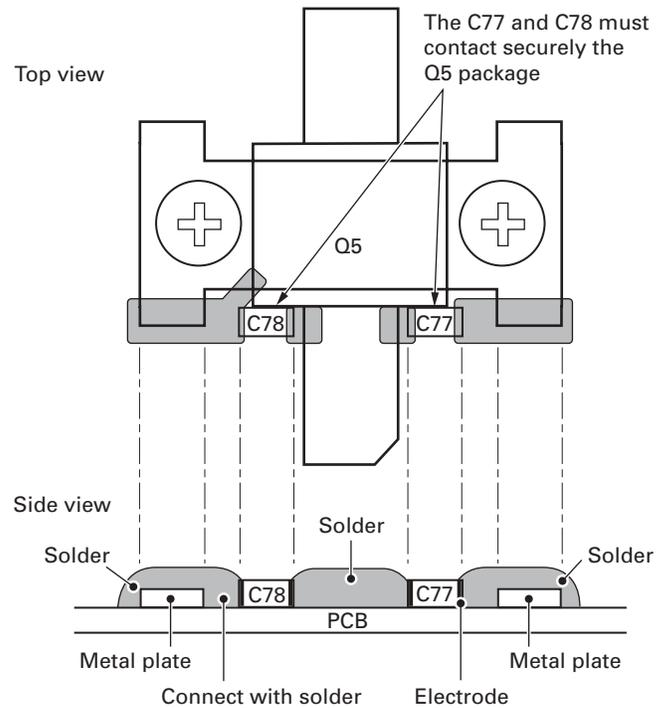

Fig. 9-3
1. Ensure to solder C77 and C78 with the earth spring legs as illustrated in Fig. 9-3.